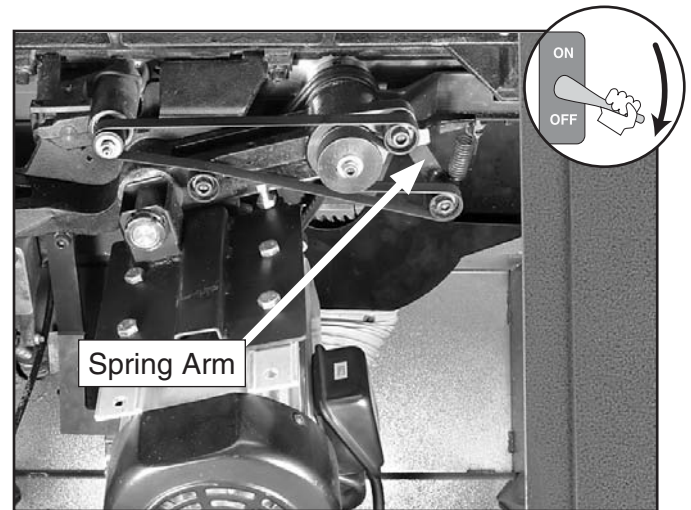

Figure 82. Scoring blade belt tension arm.
3. Rotate the belt tension arm shown in **Figure 82** and slide the flat belt off of the roller.